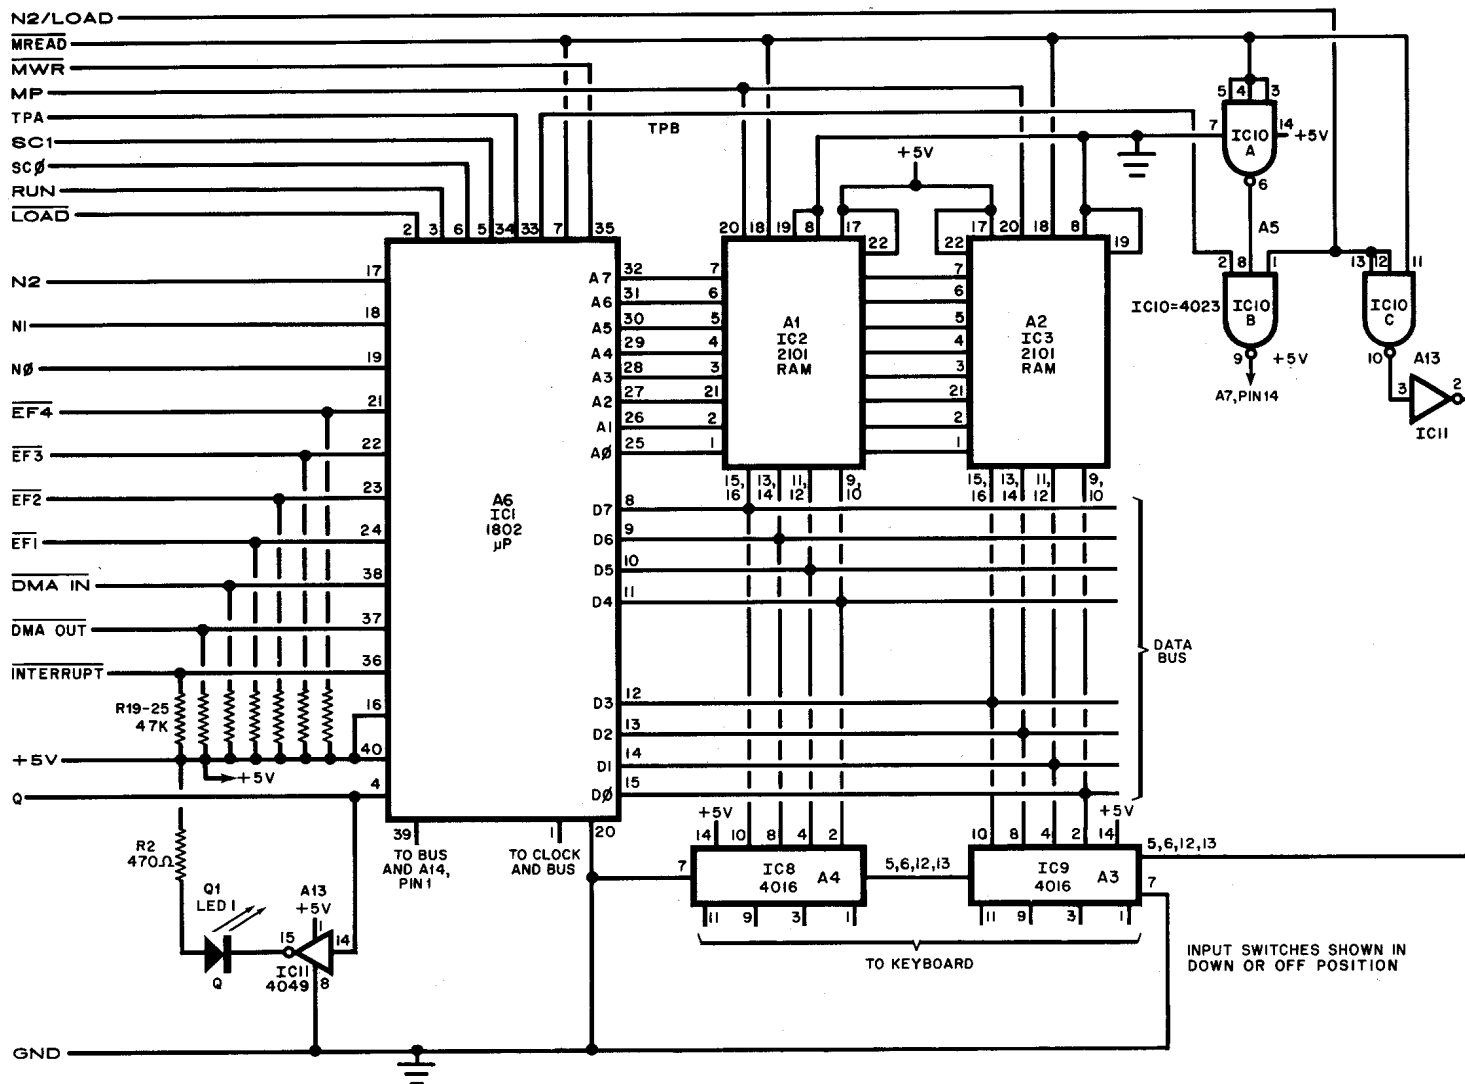
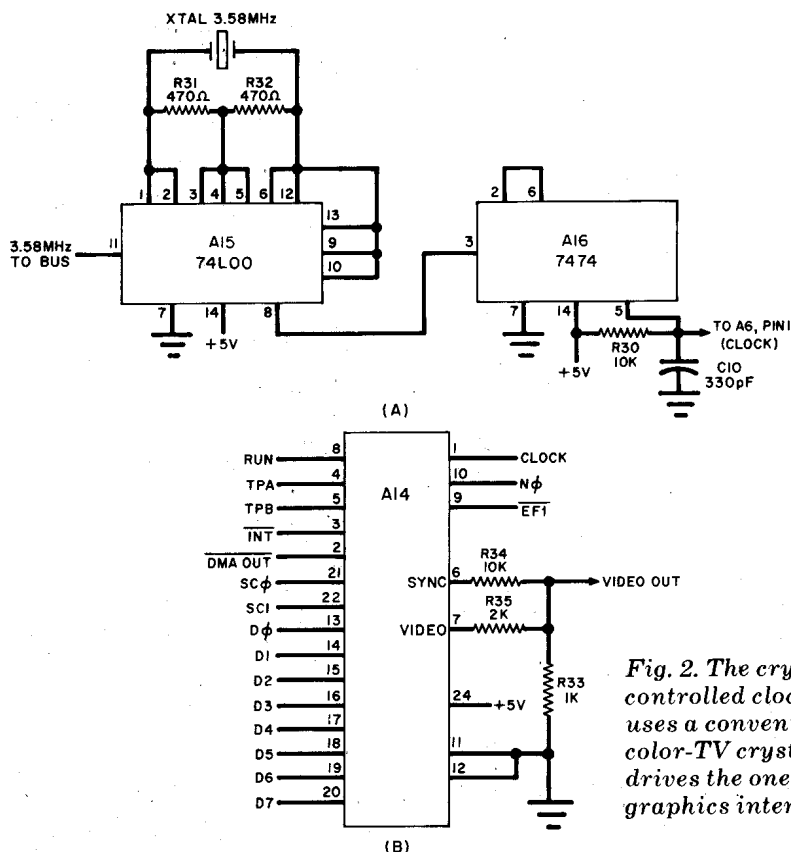
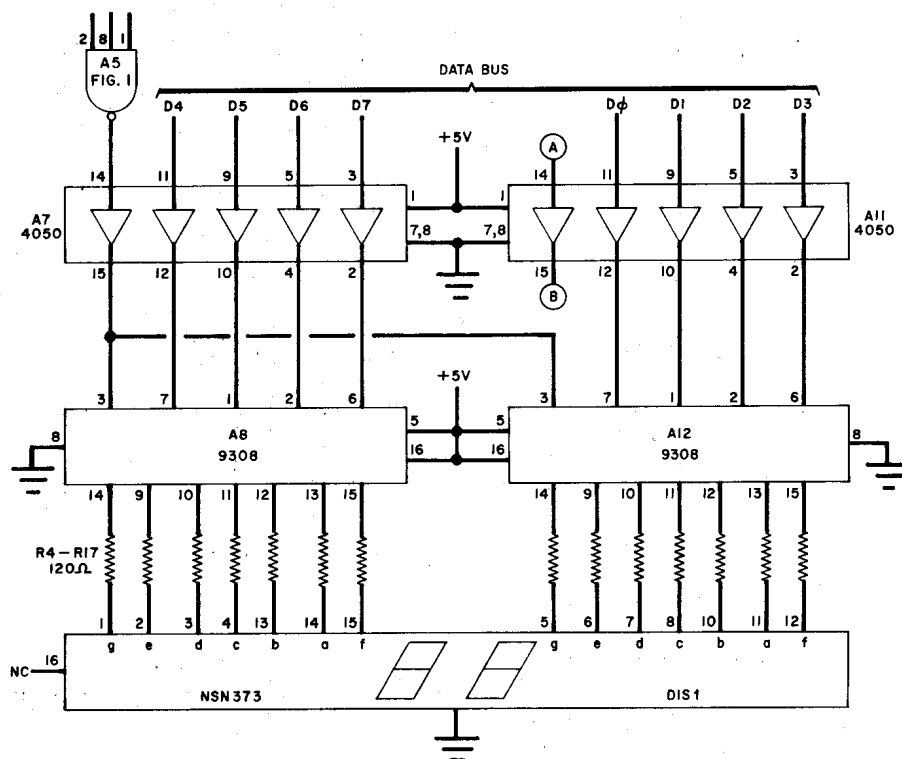

Fig. 1. The basic Elf circuit is modified as shown here. Note that the IC's are now A-prefixed, and the passive components are renumbered.
Fig. 2. The crystal-controlled clock (A) uses a conventional color-TV crystal and drives the one-chip graphics interface (B).
Fig. 3. A pair of 7-segment LED readouts working with a pair of decoder/latch/driver IC's form the low cost hex display.
**The Basic Elf.** The basic computer circuit shown in Fig. 1, and the graphics interface shown in Fig. 2 are essentially the same as the original Elf's.
Whereas the original Elf used a pair of relatively expensive hexadecimal decoders/latch/readouts to monitor the data lines, Elf II uses a pair of conventional 7-segment LED displays to do the same thing. Besides the saving in cost, the only difference between the two approaches is that in the Elf-II method, lower-case 'b' and 'd' are used instead of capital letters. However, these cannot be mistaken for any other alphanumeric character. The new circuit is shown in Fig. 3. Integrated circuits A8 and A12 accept the digital information from the data bus—buffered by A7 and A11—and convert this data to drive the common-cathode 7-segment LED readouts forming *DIS1*. Besides the data information, this circuit also accepts the strobe signal coming from A5 of Fig. 1 (the original IC10, pin 9).